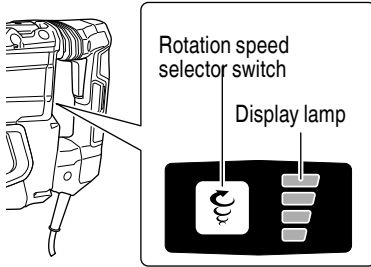

Fig. 9
8. Regulating the number of rotations and hammering (Fig. 9)